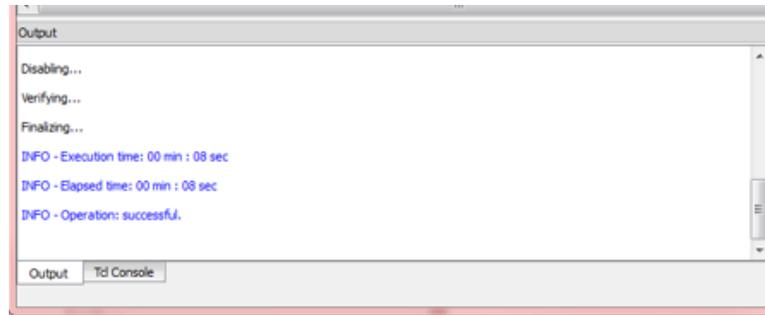

Figure A.5. Output Console
6. After successful programming, the Output console displays the results as shown in Figure A.5.